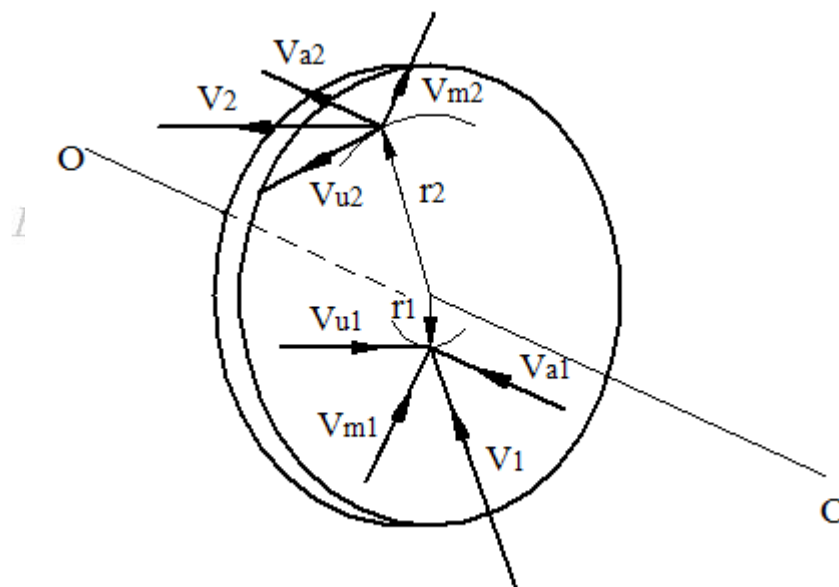

Fig. 3.1 Fluid flow through a rotor of a turbomachine.
**Answer:** The figure 3.1 shows the rotor of a generalized turbomachine with axis of rotation  $O-O$ , with an angular velocity  $\omega$ . The fluid enters the rotor at radius  $r_1$  with an absolute velocity  $V_1$  and leaves the rotor at radius  $r_2$  with an absolute velocity  $V_2$ .